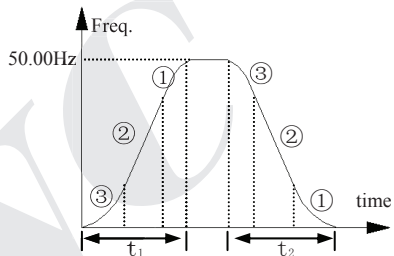

Fig. 7-2 S curve acc/dece
1: S curve acc/dece mode. Output frequency raise or decline as the S curve: as fig.7-2.
S curve starts interval time as fig.7-2 ③, output frequency changed slope increase slowly from zero.
S curve up interval time as fig.7-2 ②, output frequency changed slope is constant.
S curve ends interval time as fig.7-2 ①, output frequency changed slope decrease slowly to zero.